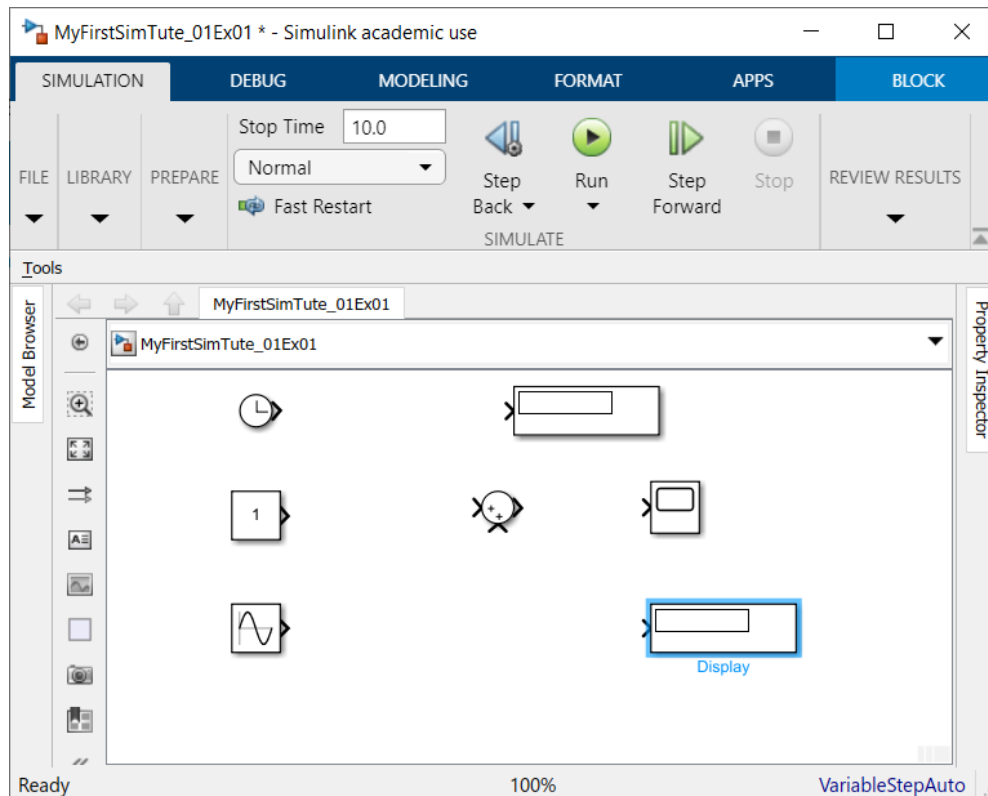

Figure 9 Start a simple Simulink model
- Select a Scope (Sinks). The Simulink model should look like the one in **Fig. 9**.